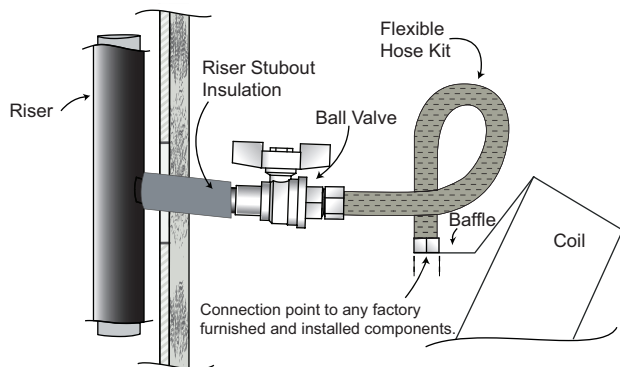

Fig. 24 — 42SUA Unit Riser to Unit Installation
- All universal stack units use reinforced braided stainless steel flexible hose kits for piping between field-installed risers and unit water coils as shown in Fig. 24. The hose kit design has threaded connections on each end. The hose kits allow for riser fluctuations due to thermal expansion.